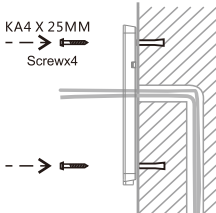

Figure 6
- With 4 KA5 x 25mm screws, tighten the Wall-mounted hanging shell as shown in Figure 6.